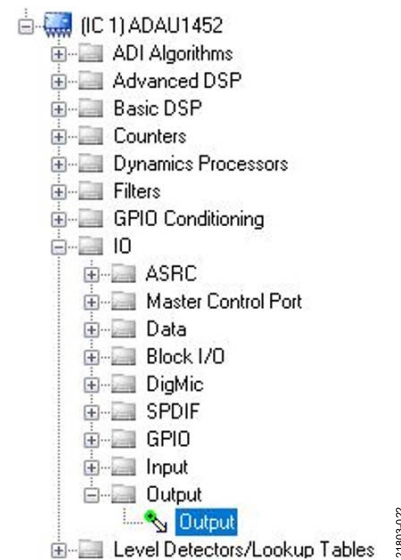

Figure 22. Adding an **Output** Component
4. Add two output blocks, **Output1** and **Output2**, by clicking the **Output** component from the (IC 1) ADAU1452 > IO > Output folder (see Figure 22), and then dragging it into the project space. Ensure that these blocks, which represent output channels, are assigned to Channel 0 and Channel 1.